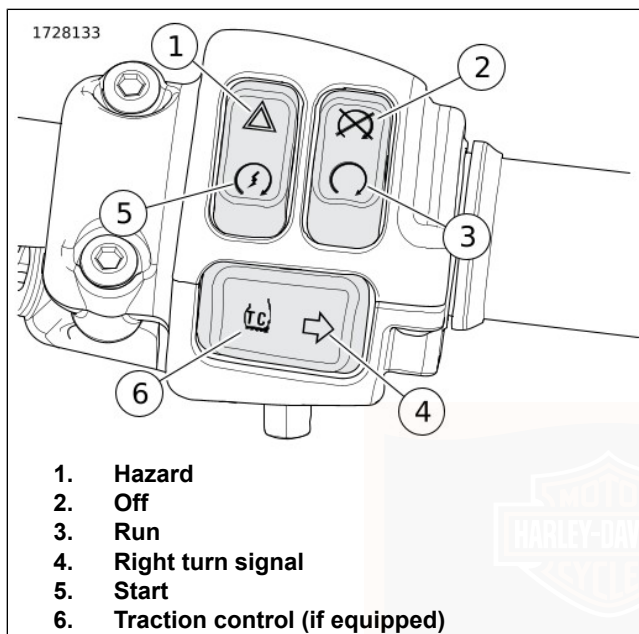

Figure 35. Right Hand Control Switches
2. See Figure 35. Switch the OFF/RUN switch to the RUN (3) position.